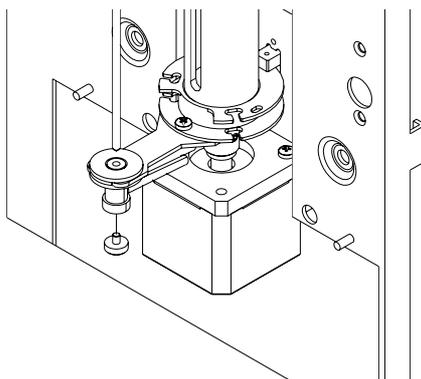

Figure10-46
7. Remove the probe from the wipe block and insert the localizer into the wipe block from the bottom, as Figure10-46 shows;